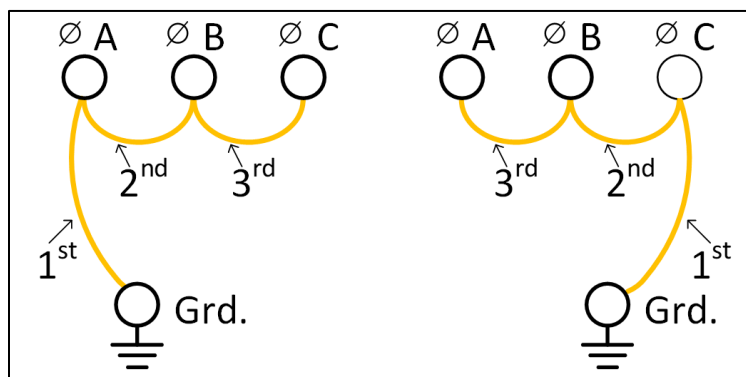

Figure 3 – Examples of “Phase to Phase”
8.23.1 Application of Un-Balanced “Phase-to-Phase” Grounding (refer to Figure 3):